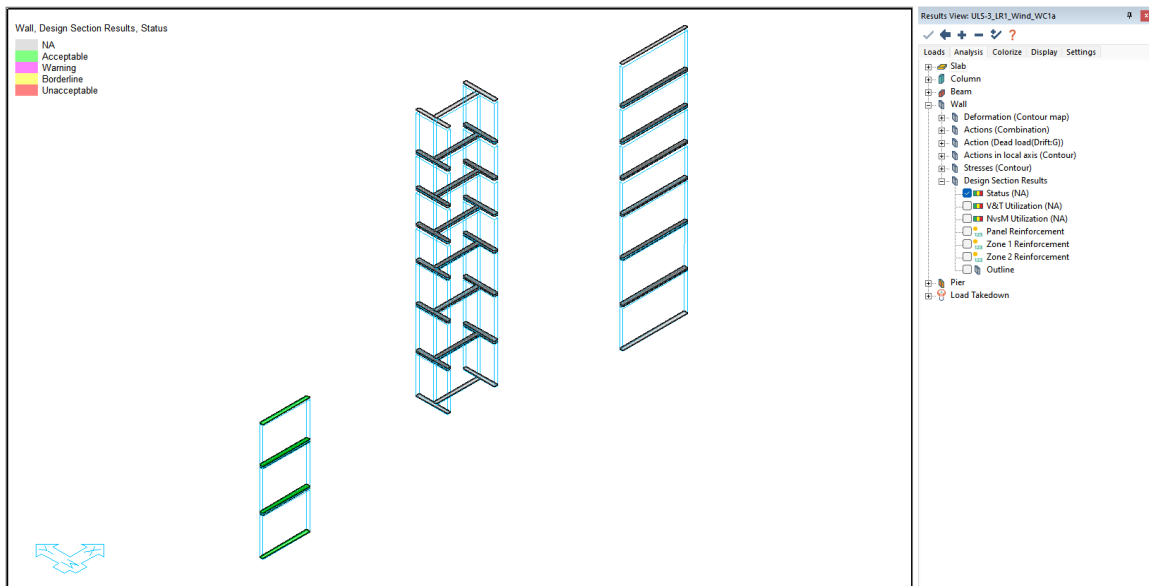

FIGURE 16-11
- In the *Results View* panel, go to the *Analysis* tab and select **Wall – Design Section Results** → **Status**. The design sections for P1 are shown as *Acceptable* in **FIGURE 16-11**. The overall status check shows *NG* because all design sections generated have not yet been designed for this example. Other graphical checks are shown in the *Design Section Results* branch.